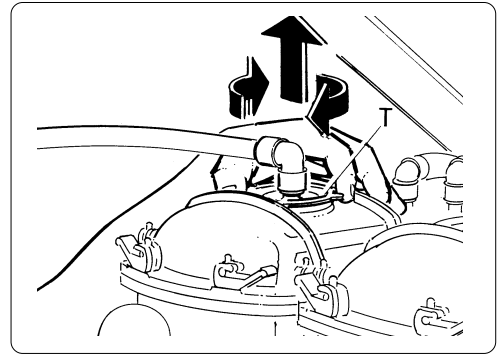

Fig. 26
- p) Remove the cap (T) fitted with the CIP device (fig. 26).
- q) Remount the normal cap (I).